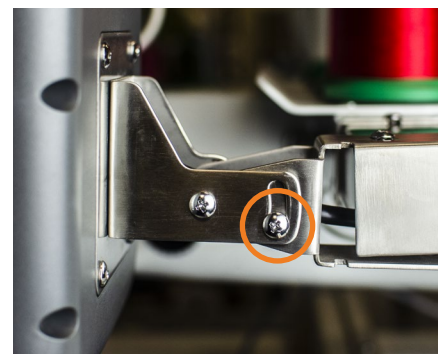

Figure 12
1. To move the panel up or down, loosen the knob located on the side of the panel arm. **See Figure 12.**